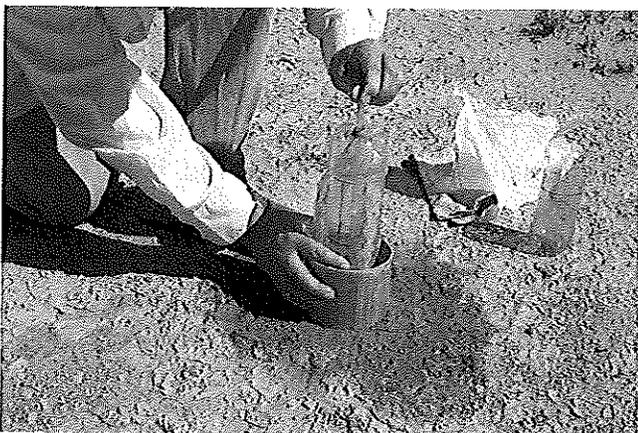

Figure 8.8. Adjust the pipette.
9. Adjust the pipette to maintain the water in the ring at 3 cm (1.25 in) depth (Fig. 8.8).